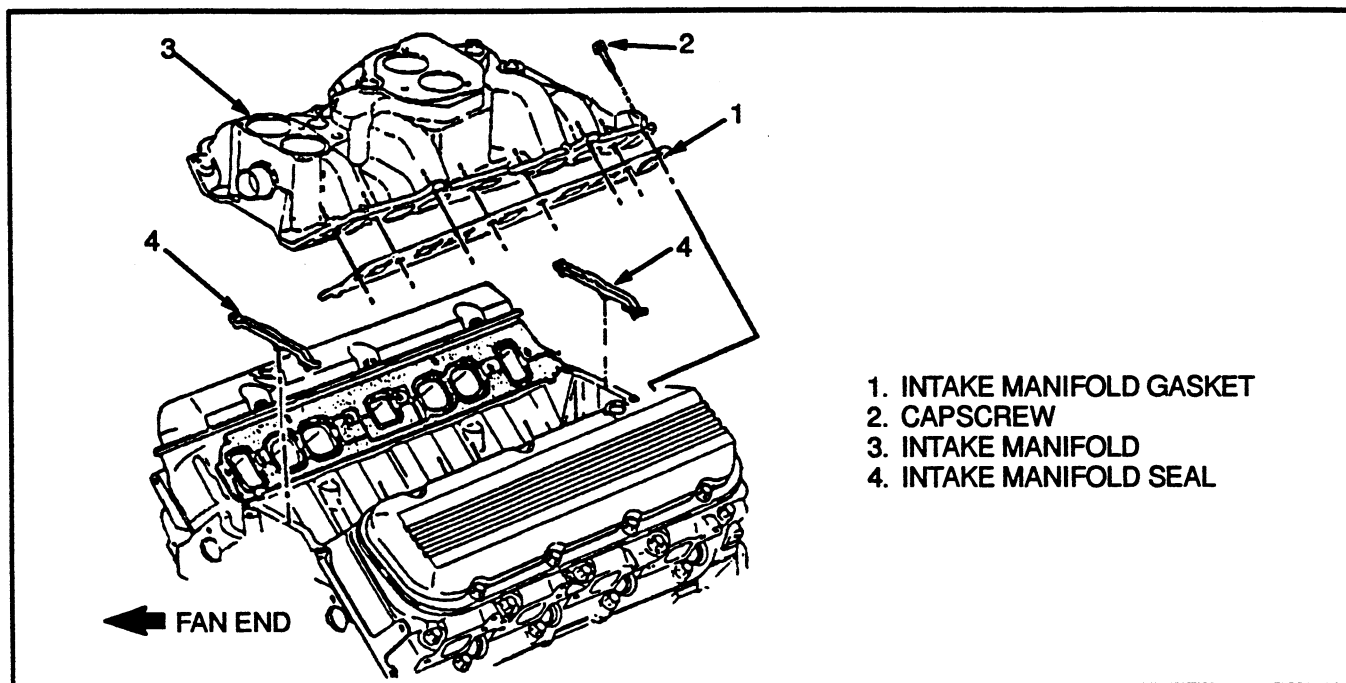

FIGURE 3. INTAKE MANIFOLD
6. Remove the intake manifold. See FIGURE 3.